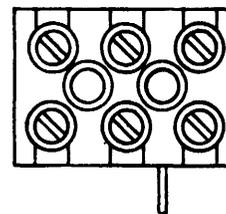

Figure 1. WECo Number 12E Connecting Block.
2.01 The WECo number 11 connecting block is a two-conductor device with four screw terminals molded in a phenolic base. The Number 12E block (Figure 1) is of similar construction but arranged for three conductors and provided with a molded-in eyelet for the attachment of an S-hook or tie-cord strain relief. Number 11A is a plain block, 11B is equipped with a black metal snap-on cover, and 11C has a cover with an insulated under surface. Number 12E is a plain block, and 12F has a snap-on cover. Blocks from recent production have gray or ivory finished covers. Wiring channels are molded into the under surface of the base. The principal usage of these blocks is for the extension of interior wiring. The R and D Electronics A-3 block is similar to the number 12E block.